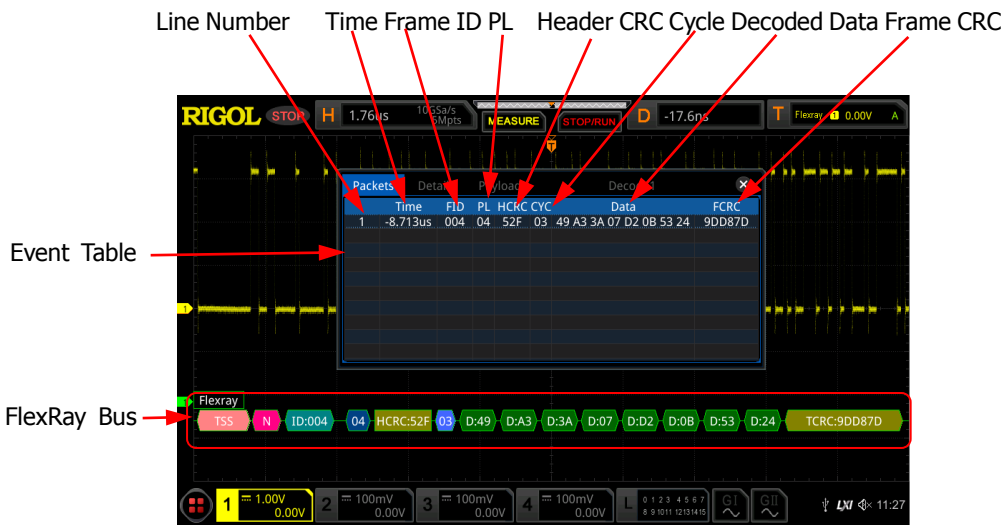

Figure 12-13 FlexRay Decoding Event Table
- Open or close the event table: Press **Event Table** continuously to enable or disable the event table. When you enable the event table, the following figure is displayed, as shown in Figure 12-13. You can also enable the touch screen to tap the icon  at the upper-right corner of the table to close the event table.